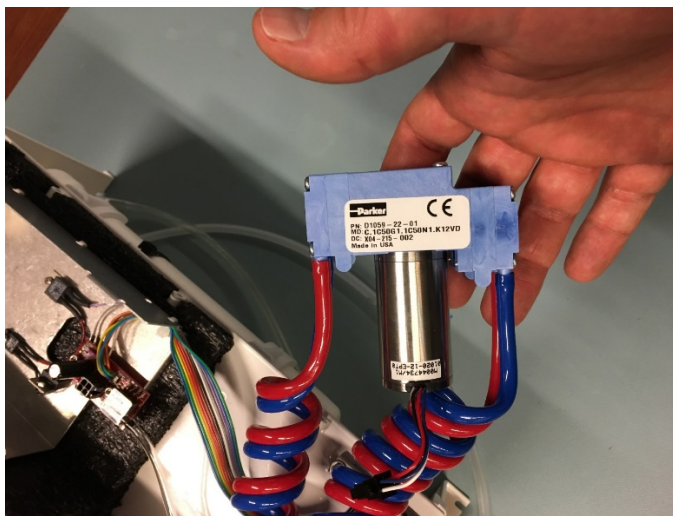
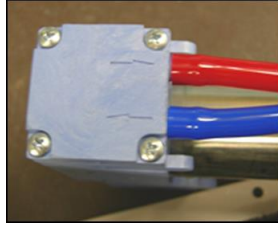

FIGURE H-11. Inlet and outlet tubing reconnected to pump
FIGURE H-12. Pump side with inlet and outlet tubing connected
1. Position the pump with the label up and connect the coiled tubing on both sides of the pump (see FIGURE H-11). Blue tubing connects the inlets and red connects the outlets as directional arrows show on the side of the pump (FIGURE H-12).